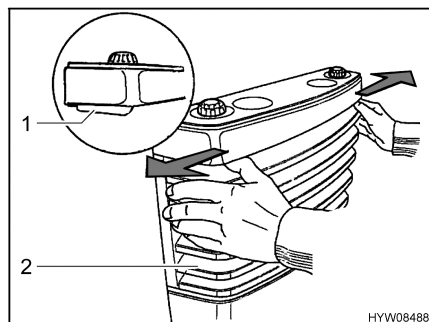

Fig. 55 Removing heater cover
- Remove heater cover (Fig. 55,2). To do this, press the two locking levers (Fig. 55,1) to the outside at the same time and tip the cover forwards.